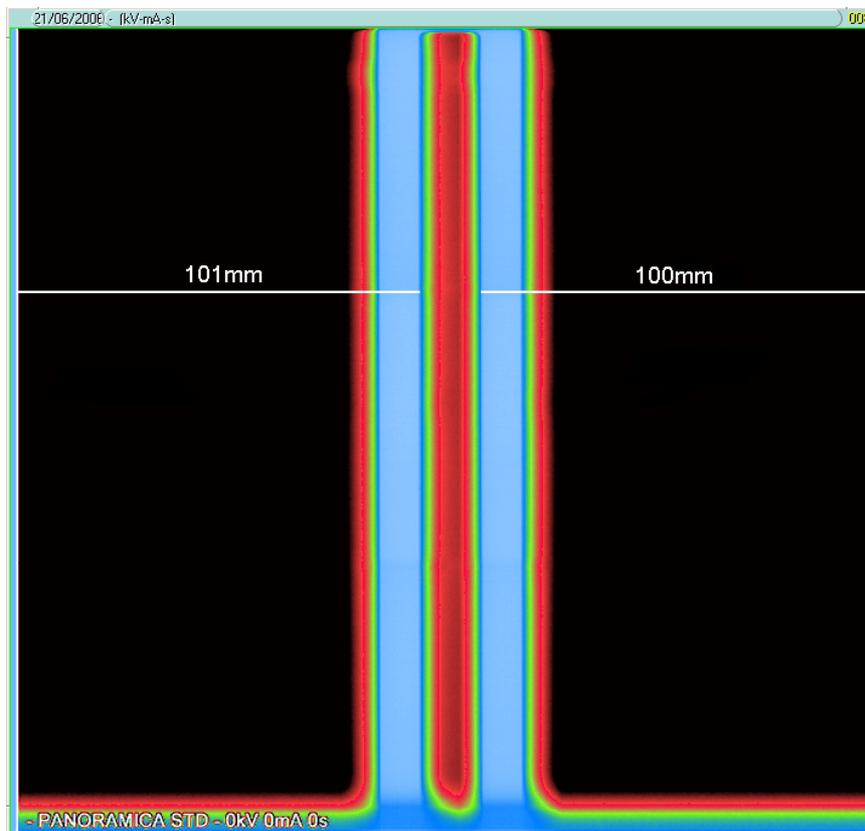

Figure 7-4
- 33.** On the image taken with QuickVision, using the instruction in paragraph 7.1.2, measure the distances between the borders of the image and the borders of the central vertical stripe (Figure 7-4); to take the measure easily, you can use the QuickVision pseudo color function.